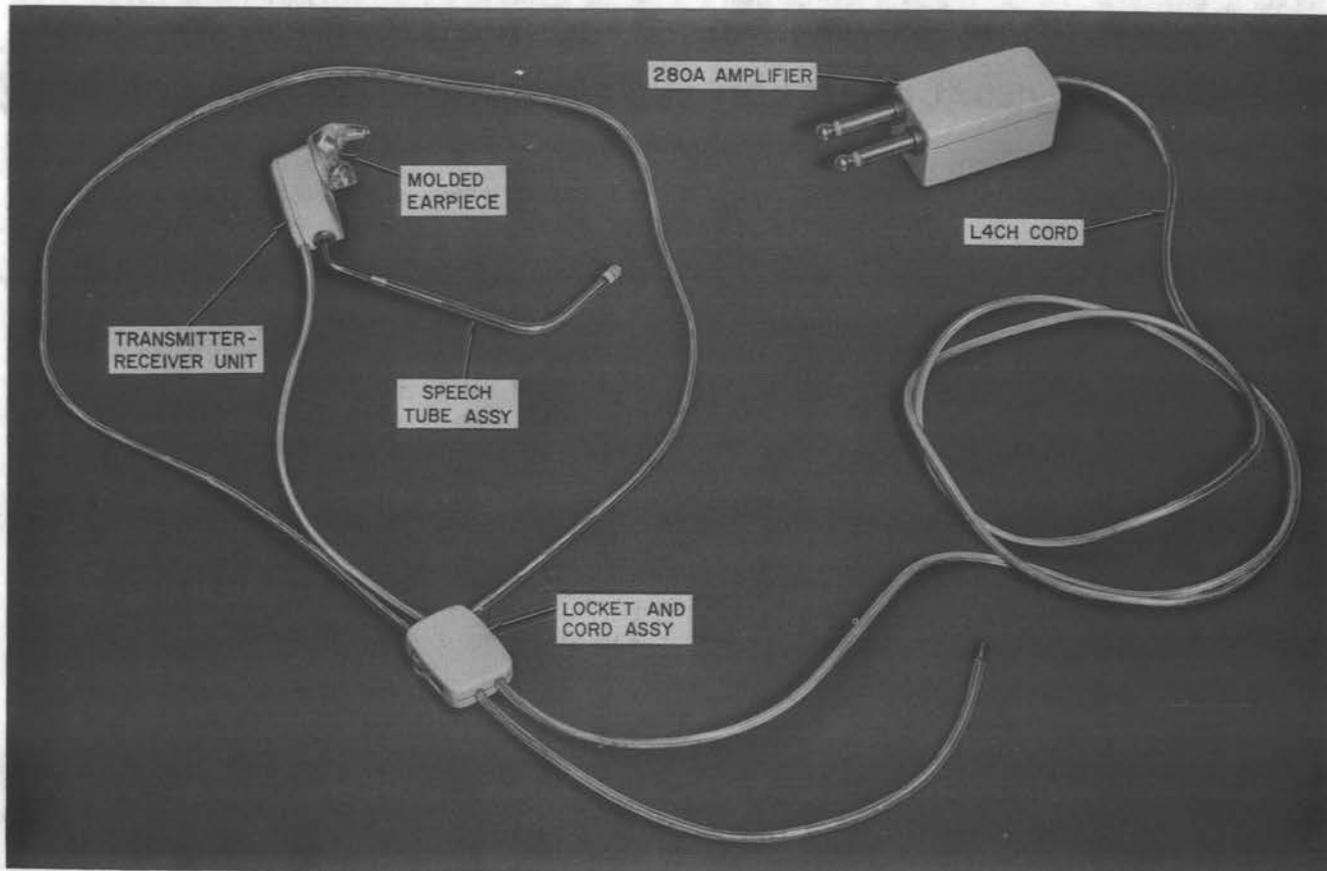
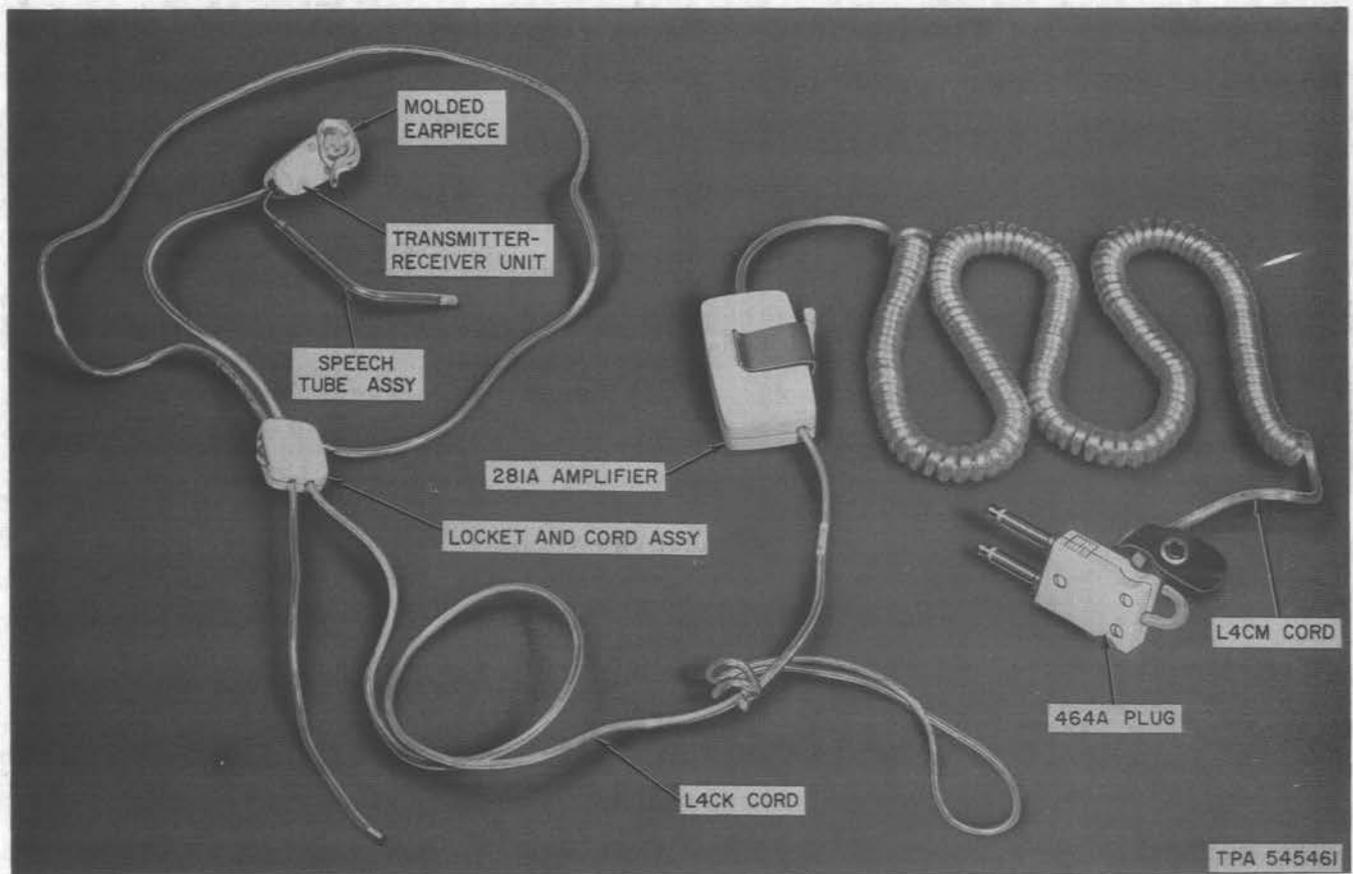

Fig. 1—61A Head Telephone Set
Fig. 2—61B Head Telephone Set
- Revise Fig. 2
1.03 The 61A (Fig. 1) and 61B (Fig. 2) are miniature headsets fastened to a hearing aid-type earpiece custom-molded to fit the ear. The housings contain an MA1 receiver unit, a 107A varistor, and an AE1 transmitter unit. Sound is directed from the mount to the transmitter unit by means of a clear plastic tube which can be rotated and adjusted for length. An adaptor inserted in the molded earplug provides friction to hold the headset in the desired position.